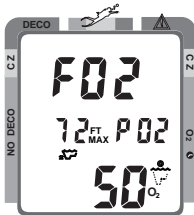

Fig. 49 - FO2 (Default ON)
- If the FO2 Default was set ON, the FO2 value displayed (Fig. 49) will be the 'default value' of 50 (%) and will have to be set for the breathing gas used for the next dive.